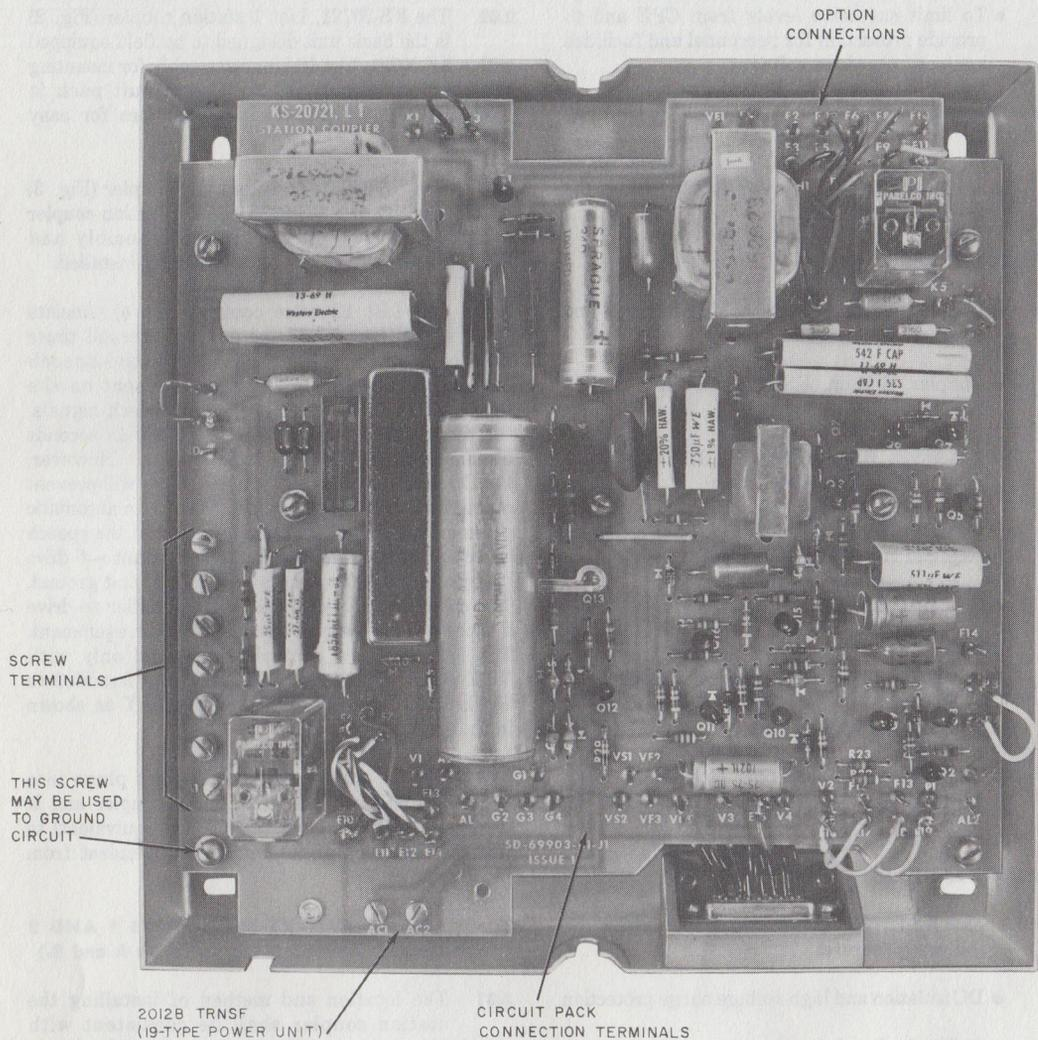

Fig. 2—KS-20721, List 1 Station Coupler, Cover Removed
**2.02** The KS-20721, List 1 station coupler (Fig. 2) is the basic unit designed to be field equipped with a KS-20721, List 10 hinge assembly for mounting the optional circuit pack. The circuit pack is equipped with quick connect connectors for easy installation.